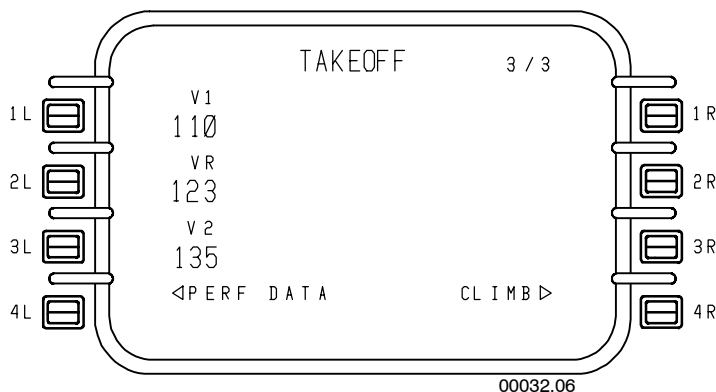

Figure 5-30
- **TAKEOFF 3/3** – Figure 5-30 is used to manually enter takeoff speeds.